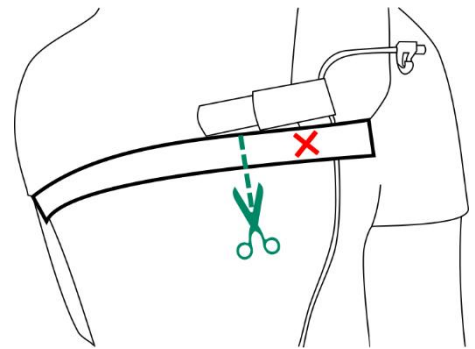

Figure 10
4. Wrap the torso straps around the body (upper strap just below the armpit, lower strap just above the hips). At the back of the torso, cut the straps to the desired length (Fig 10).